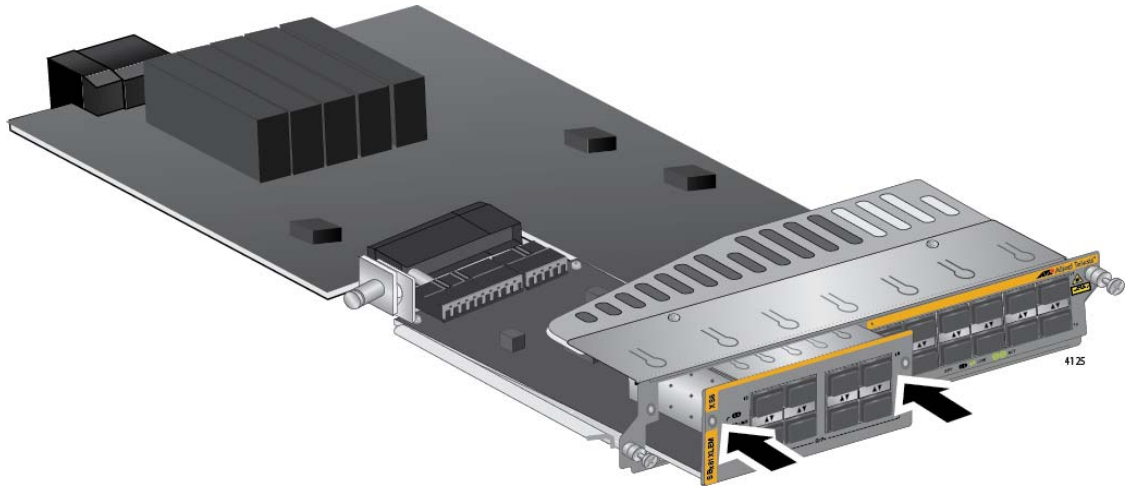

Figure 93. Seating the Expansion Module on the Connector in the AT-SBx81XLEM Line Card
- When the expansion module makes contact with the connector inside the line card, gently press on both sides of the faceplate to seat the module on the connector. Refer to Figure 93 on page 165. The module is fully installed when its faceplate is flush against the faceplate of the AT-SBx81XLEM Line Card.